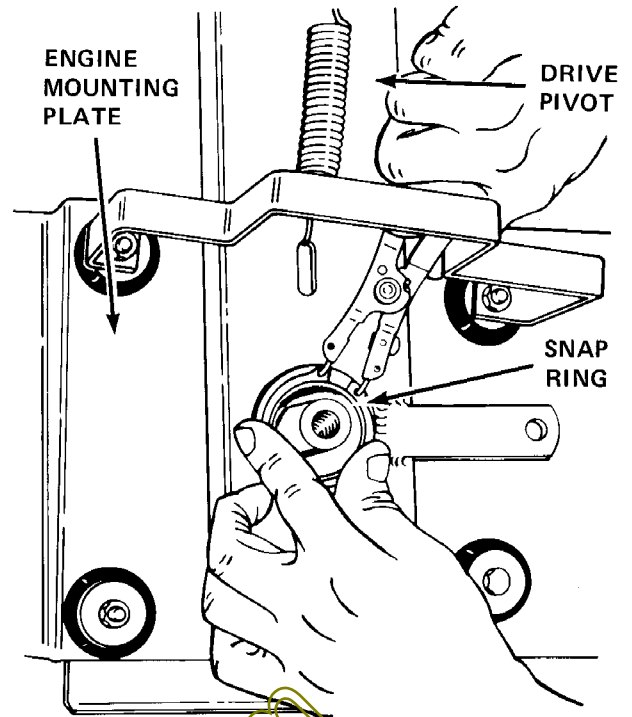

FIGURE 8
11. Remove snap ring. See Figure 8.